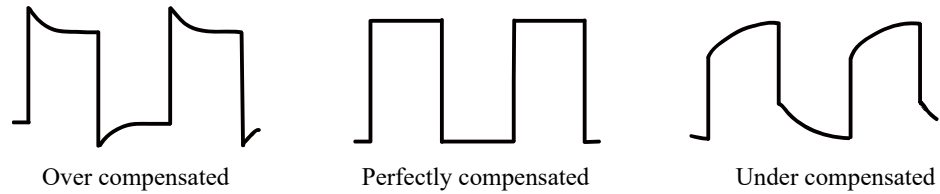

Figure 7.9 Probe Compensation
2. Check the displayed waveforms and compare them with the waveforms shown in *Figure 7.9*.
3. Use the probe compensation adjustment tool provided in the accessories to adjust the low-frequency compensation adjustment hole on the probe until the displayed waveform is consistent with the "Perfectly compensated" waveform shown in *Figure 7.9*.